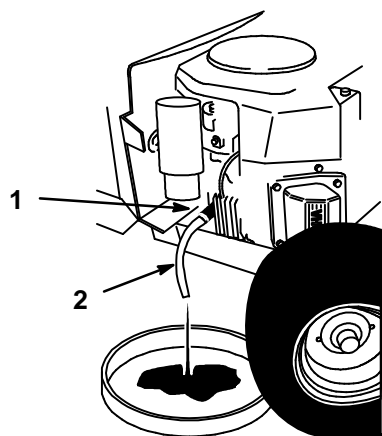

Figure 19
5. Place a pan below the oil drain. Open the drain by turning counterclockwise, 1/8 turn, and pull out (Fig. 19).